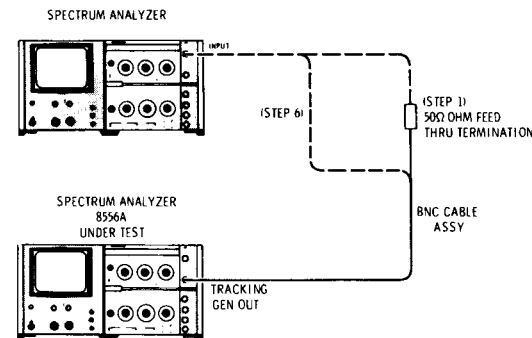

Figure 4-14. Tracking Generator Spectral Purity Test Setup
- Connect equipment as shown in Figure 4-14, connecting TRACKING GEN OUT of 8556A under test to INPUT of separate Spectrum Analyzer; connect through 50 Ohm Feed Thru Termination.